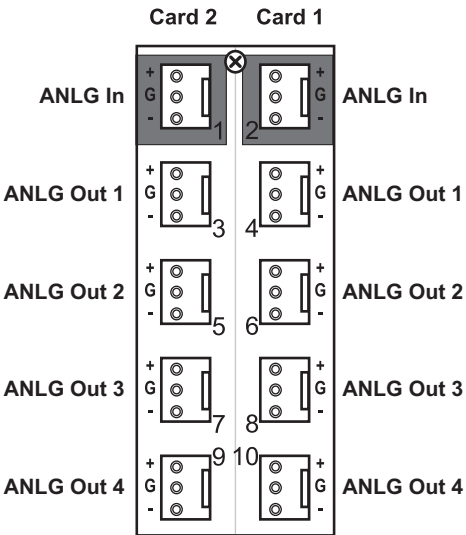

Figure 2.3 Cable Connections for the **8320AR-043** Split Rear Module
- **8320AR-043** Split Rear Module — Each module occupies two slots and accommodates two cards. This rear module provides one analog input and four analog outputs per card. (**Figure 2.3**)